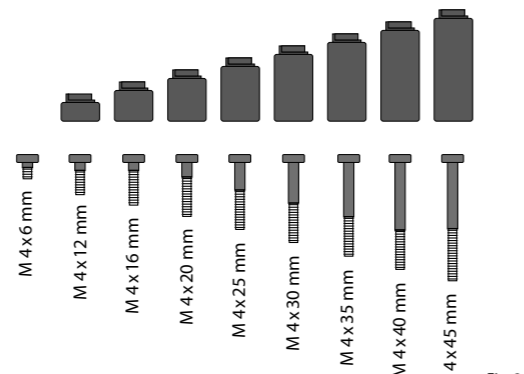

Fig. 2
- 2 The basic measurements of the cylinder are 30/10 mm. Delivered, the outside knob is already preassembled. Attached to the cylinder is an adapter kit that enables you to adjust the cylinder to doors with a thickness of up to 67.5 mm (measured center fixing screw). Matching to the adapter lengths, the respective screws are attached (Fig. 2).